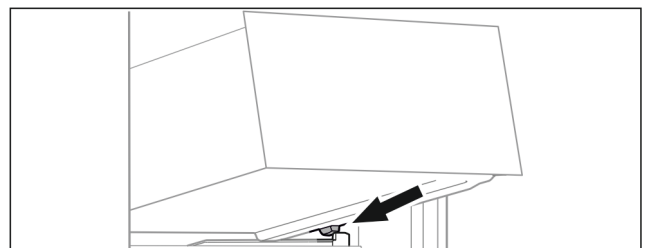

Fig. 85
- ▶ Place drawer at an angle behind the stoppers on the moulded rib. (see Fig. 85)